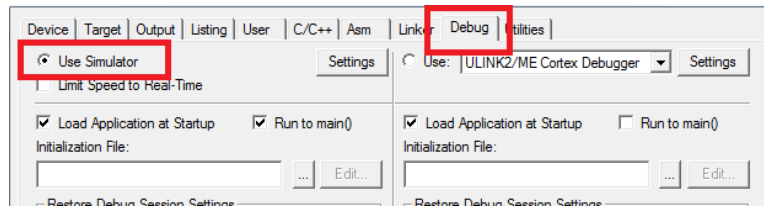

Figure 1.4: Keil IDE: Simulator Debugger Configuration
- the simulator is used (see figure 1.4).